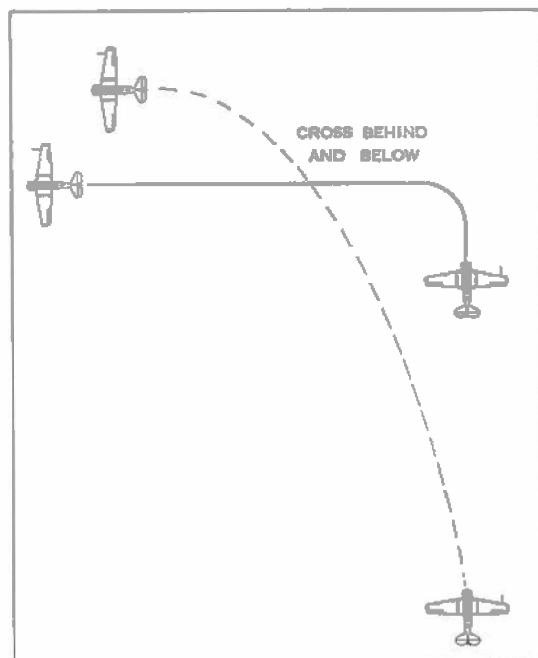

Figure 6: Reforming from Trail
(6) **REFORMING FORMATION FROM TRAIL** - Normally trail is a formation manoeuvre for more than two aircraft and, when reforming, a FINGER formation is used rather than echelon. However, with only two aircraft, although the manoeuvre remains unchanged, the final position of Number Two results in an echelon formation. The signal for reforming echelon from trail is the same as that for reforming from line astern. Thus, if the leader turns to the left after wagging his wings, you should join up by cutting inside him, crossing behind and below to come up beside his right wing, as shown in Figure 6. If you find that you have used too much power and are overshooting, you should increase the radius of turn by remaining on the outside of the leader's turn. This will allow you to move slowly into the correct position. Aerobatics are not to be carried out in trail formation.